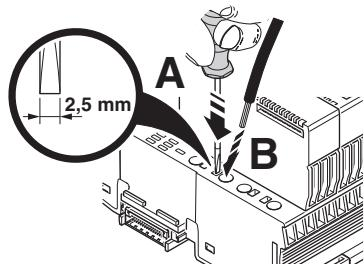

Figure 11-18 Connecting a stranded cable with tools
- Open the spring by pressing the actuation slot with the screwdriver (Figure 11-18, A). Use, for example, a bladed screwdriver with a blade width of 2.5 mm. Phoenix Contact recommends the Szs 0,4x2,5 screwdriver (see Section "Ordering data" on page 142).
- Insert the cable in the terminal point (B).